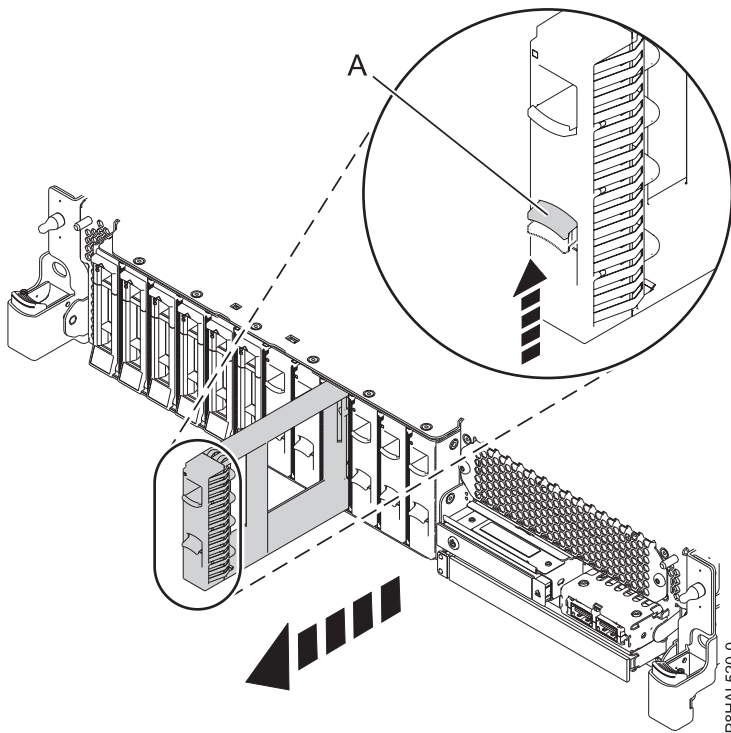
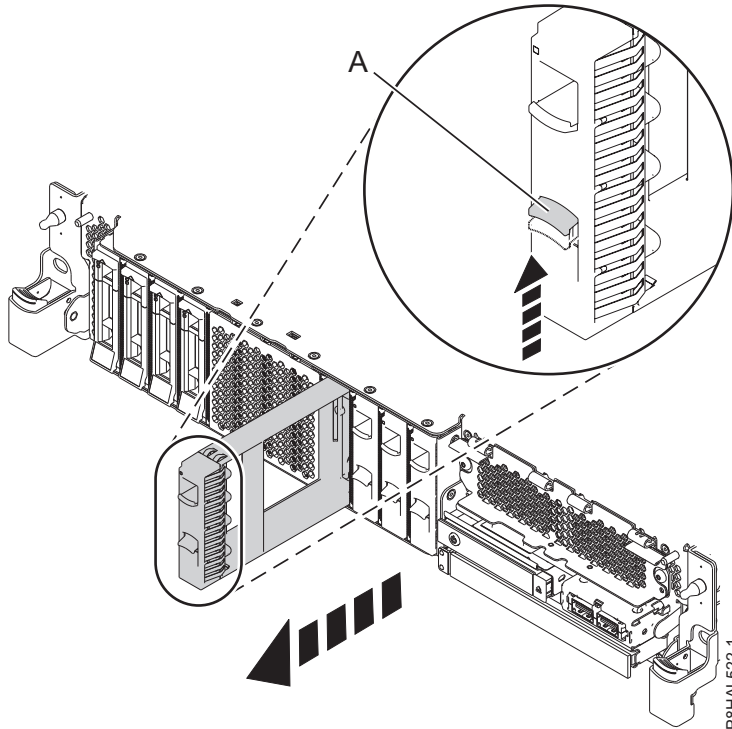

Figure 100. Removing a disk drive filler from a base function system
Figure 101. Removing a disk drive filler from an expanded function system
3. Push the lock (A) on the handle of the filler in the direction shown in Figure 100 and Figure 101 on page 99.